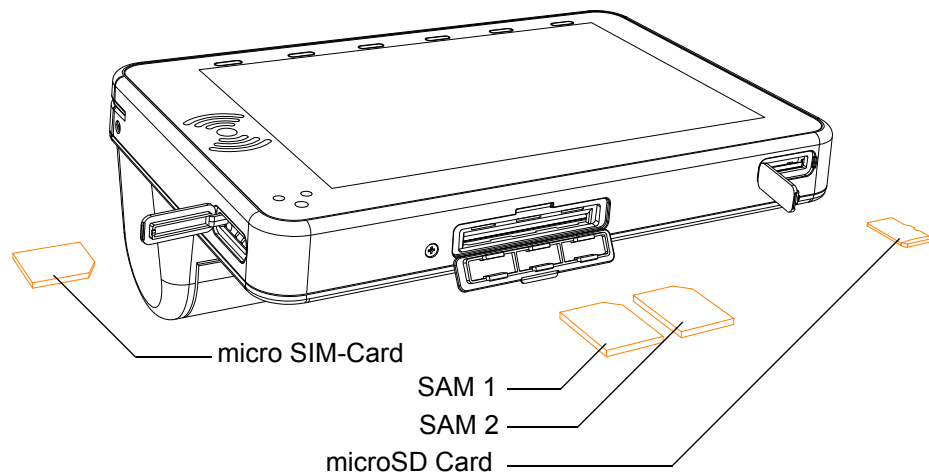

Figure 5-1: Insert SIM, SAM and micro SD card
- Place the desired card into the appropriate card slot. (see Fig. 5-1)